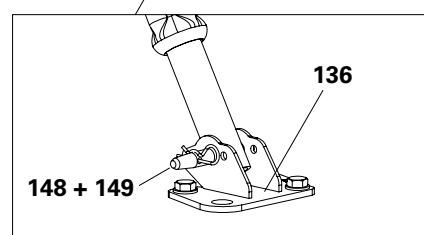

Fig. A15.08b
4. Fix the push-pull prop in the large hole of the base plate with bolts (**148**) and cotter pins (**149**). (Fig. A15.08b)